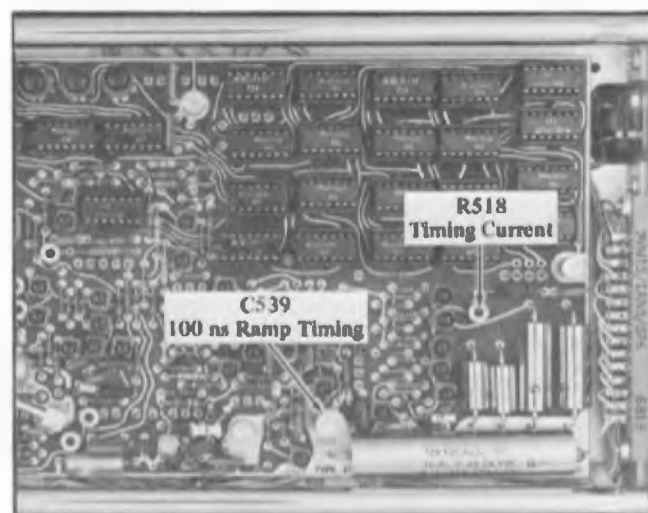

Fig. 5-15. Timing adjustment locations, instrument right side.
d. Adjust R518, Timing Current, for a readout of 5.00 μ s. Location is shown in Fig. 5-15.